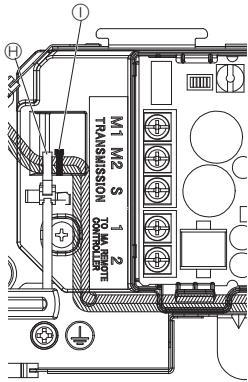

Fig. 5-7
5. Install a band on the optional lead wire, and perform measures against tension. (Fig. 5-7)
- ① Electrical wiring service panel
- ② Screw
- ③ Electrical box cover
- ④ Temporary hook for electrical box cover
- ⑤ Screw
- ⑥ Slide direction of the electrical box cover
- ⑦ Optional VALVE KIT lead wire
- ⑧ Cable clamp
- ⑨ Small band (included with the optional VALVE KIT)